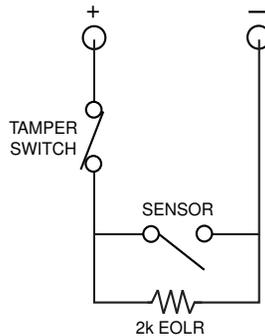

Figure 3-15: Wiring a Normally Open Sensor Loop for Tamper Supervision
- **If you are using a normally open sensor**, the tamper switch must be normally closed. Refer to *Figure 3-15* for the wiring configuration.